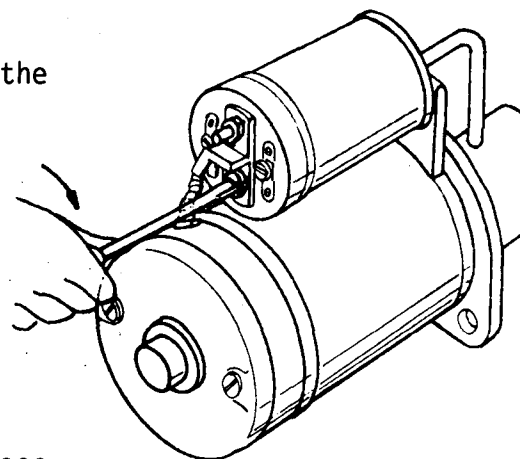

Fig. 1
- a) Remove the screw that connects the terminal of the motor to the solenoid (fig. 1).